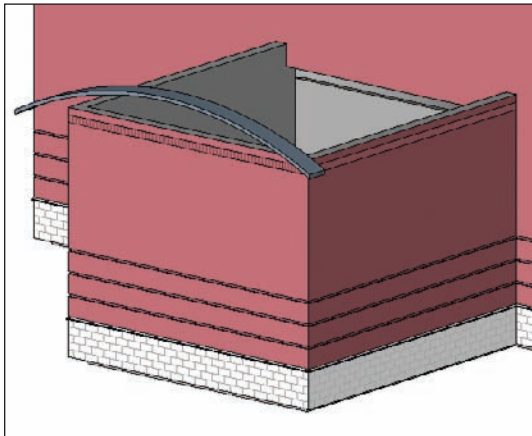

FIGURE 7.55 The almost completed canopy roof
5. Go to a 3D view. Your roof should look like Figure 7.55.